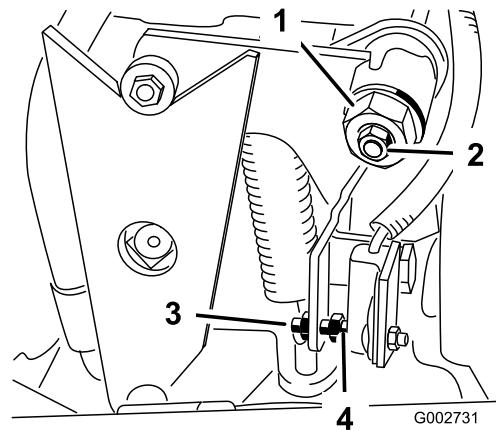

Figure 32
4. Loosen the locknut on the traction adjustment cam (Figure 32).
5. Start the engine and rotate the cam hex (Figure 32) in both directions to determine the mid position of the neutral span.
3. Adjust the screw until the air gap is .060 inches $\pm .030$ (Figure 32).